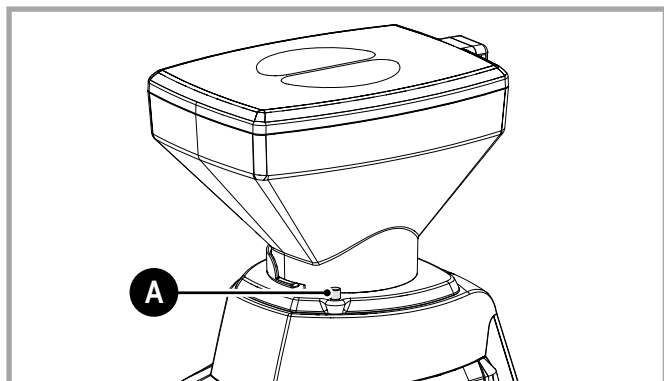

Fig. 8.2 - Ring nut
- Loosen the ring nut (A - Fig.8.2).